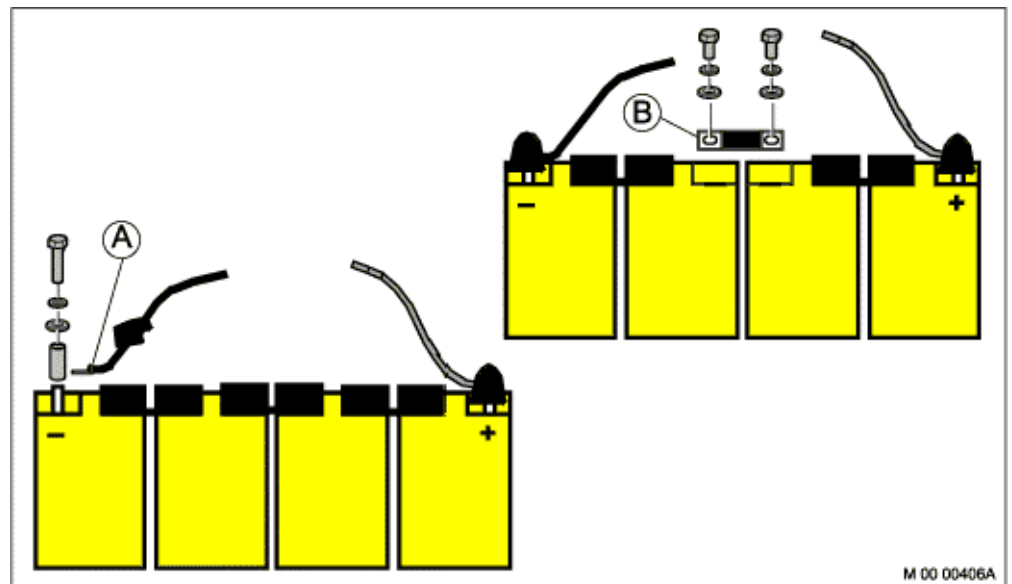

Figure 11: Example of Removing the Negative Battery Conductor (A) and an Interconnecting Bridge (B)
Note: Before battery conductors are; connected, disconnected or installed, remove the conductor to the negative pole (A) or remove an interconnection bridge (B), see Figure 11: Example of Removing the Negative Battery Conductor (A) and an Interconnecting Bridge (B) on page 18.